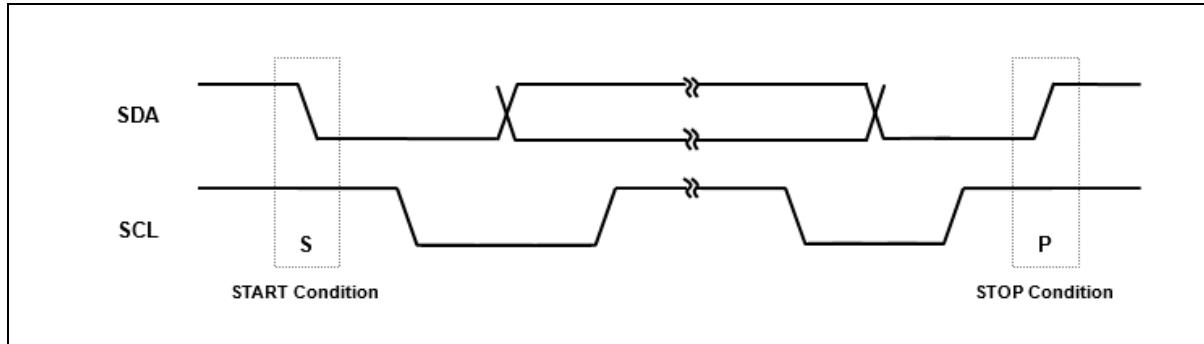

Figure 65. START and STOP Conditions
Within the procedure of the I²C-bus, unique situations arise which are defined as START(S) and STOP(P) conditions (see Figure 65).